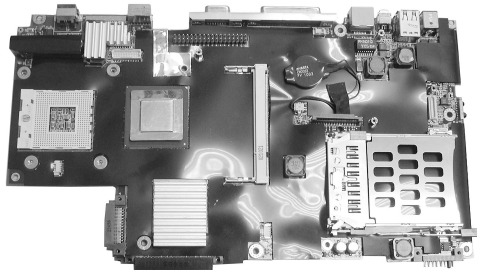

Figure 2-29 Detach the mother Board
3. Rock the D/D board to detach from the mother board. (Figure 2-29)